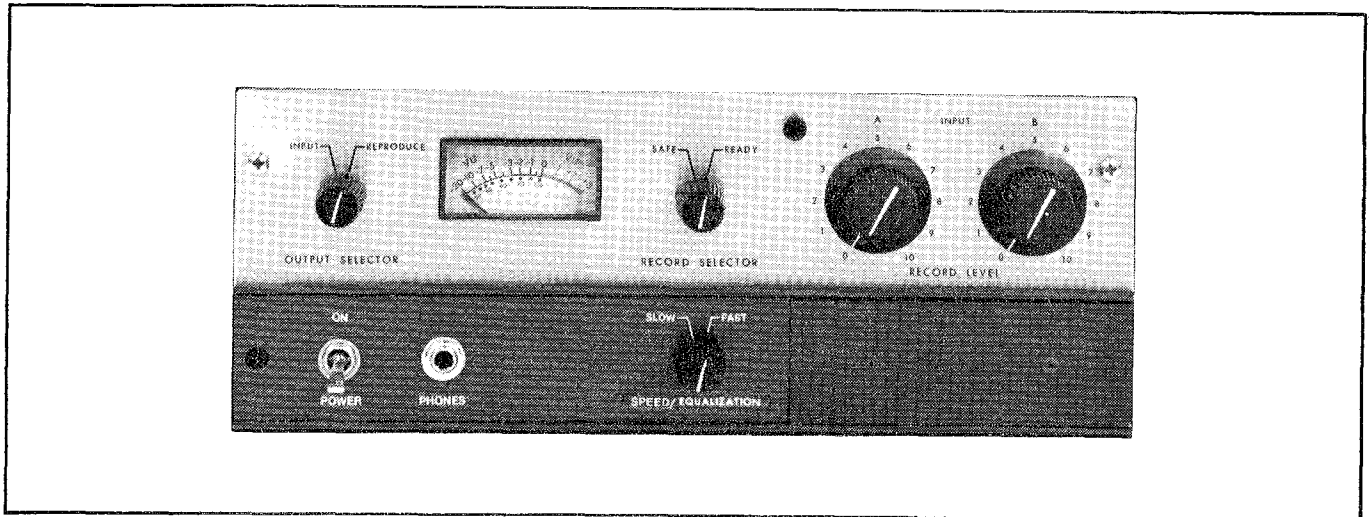

Figure 1-3. Electronic Assembly
1.9 ELECTRONIC ASSEMBLY (Figure 1-3)